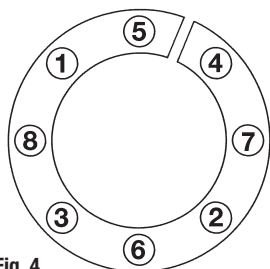

Fig. 4
5. Tighten locking screws gradually and in several stages to specified tightening torque (M_A) using diametrically opposite tightening sequence, however, with following **exception**: The two screws adjacent to the slit in part (a) should be torqued one after the other to avoid possible distortion of the flange, see Fig. 4.